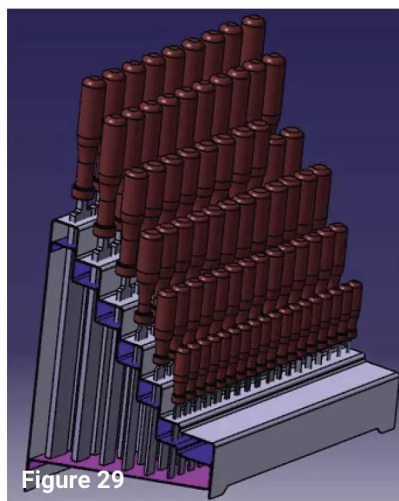

Figure 29
2. Fabrication from laser or waterjet cut and folded blanks in aluminium or steel as **fig. 29** shows.